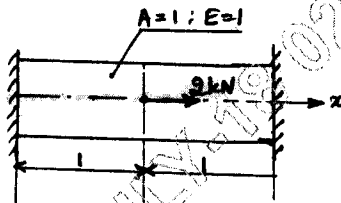

Fig Q2(b)
- b. For the bar shown in Fig Q2(b), determine the displacement at the point of loading and the corresponding stresses using Rayleigh Ritz method. Use second degree polynomial approximation for the displacement. (10 Marks)